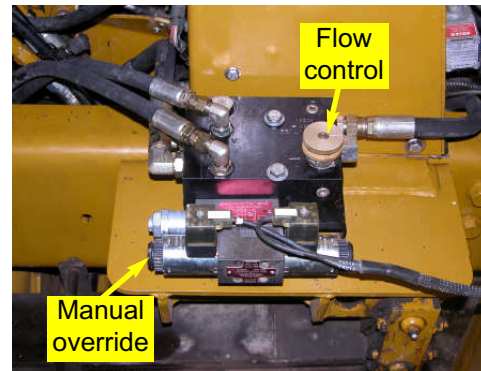

Figure 8. Automated Steering flow control knob and manual override.
- Turn counter-clockwise to increase flow. (Figure 8.)
- e. The coils on the Automated Steering Block have manual push button overrides. Push either manual override to move the machine steering wheels all the way to one extreme. (Figure 8.)
- f. Count the number of seconds for the steering wheels to move all the way in the opposite direction while pressing the manual override of the opposite coil. (Figure 8.)
- g. Adjust the Automated Steering oil flow control knob to achieve an end-to-end steering cycle time of approximately **14** seconds. (Figure 8.)
- h. Tighten the knurled, locking nut against the cartridge face to maintain the desired setting. (Figure 8.)